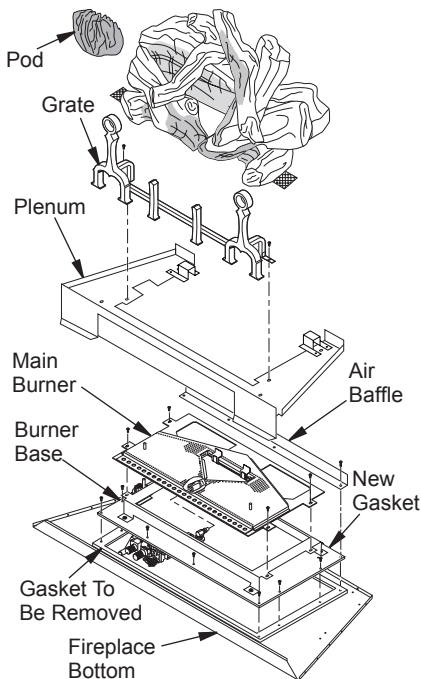

Figure 8 - Removing/Installing (V)KC36 and (V)KC42 Series Log Set/Burner Modules
See Figure 8 regarding the (V)KC36 and (V)KC42 series.
2. Remove screws attaching logs to plenum. Screws are located through a wire mesh attached to logs on either side. Lift pod from center of log set and discard. Lift logs by the bottom of the assembly and discard (see Figure 8).
See Figure 8, page 4 regarding the (V)KC36 and (V)KC42 series.
5. Using black hex screws provided, attach new flame shield to upper portion of firebox as shown in Figure 8, page 4.